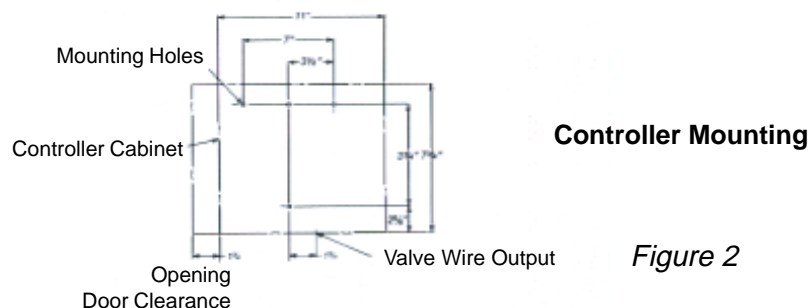

Figure 2
1. Choose a location that provides a minimum clearance of 13 " wide x 8" high. Since the electrical connections are provided at the bottom of the cabinet, clearance should be allowed for the conduit connections, etc. Refer to **Figure 2**. The location must be within 5 feet of an electrical outlet.